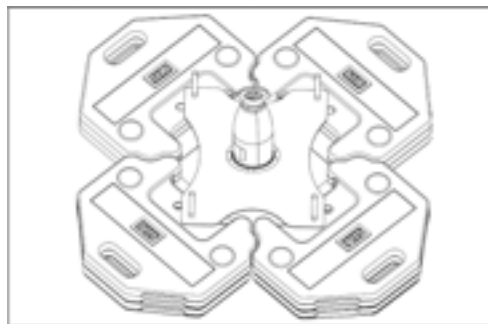

Figure 6
- c. Remove the LEAP Anchor and begin to assemble the counterweights onto the base plates, with the L-bolt protruding through the matching hole. For concrete, single-ply membrane, and bitumen membrane, stack three counterweights on each base plate. For asphalt sanded and asphalt stone chippings, stack four counterweights on each base plate. See Figure 6.
- d. Assemble the LEAP Anchor onto the L-bolts and counterweights. Make sure each bolt passes through one of the 1/2 in. diameter mounting holes in the base plate of the LEAP Anchor. See Figure 6.